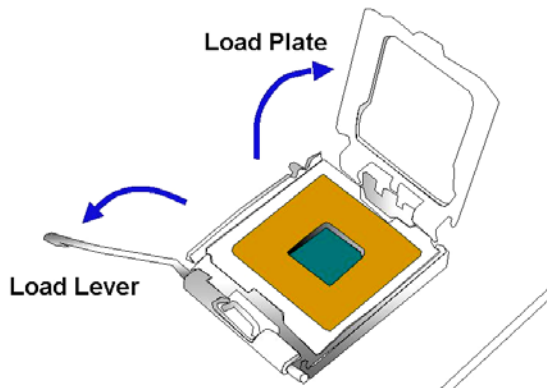

Figure 5-3: Open the CPU Socket Load Plate
Step 2: Open the socket. Disengage the load lever by pressing the lever down and slightly outward to clear the retention tab. Rotate the load lever to a fully open position. Then rotate the load plate towards the opposite direction. (See Figure 5-3)